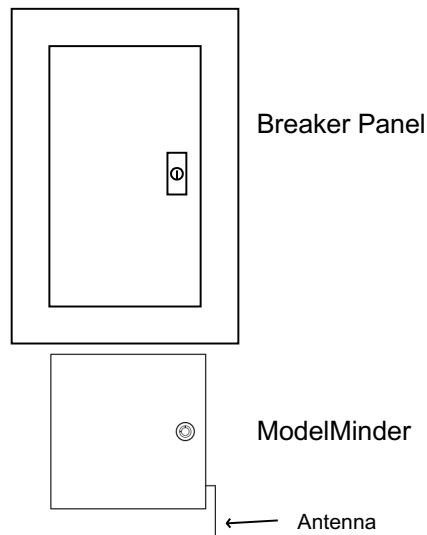

Figure 2.1: General Mounting Location
- a. Select a clear area on the wall directly below the breaker panel to mount the ModelMinder enclosure. **(Figure 2.1)**